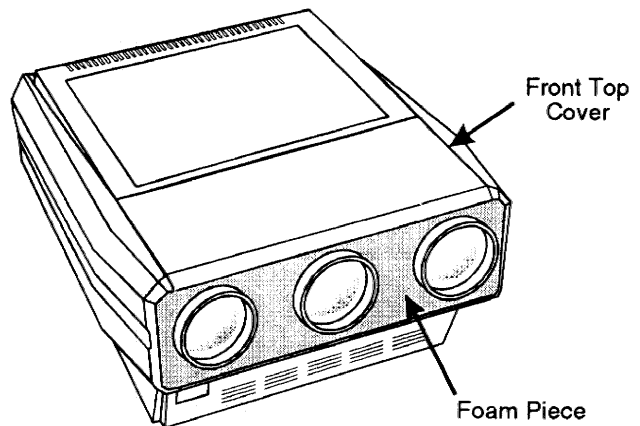

Figure 2-21. *Front Top Cover*
**Step 2** ➤ Locate the front top cover of the projector. See Figure 2-21. Next, position your hands above the red and blue lenses then grasp the cover. Gently lift it until it is released from its securing latch. Slide the cover away from the projector as shown in Figure 2-22 below.